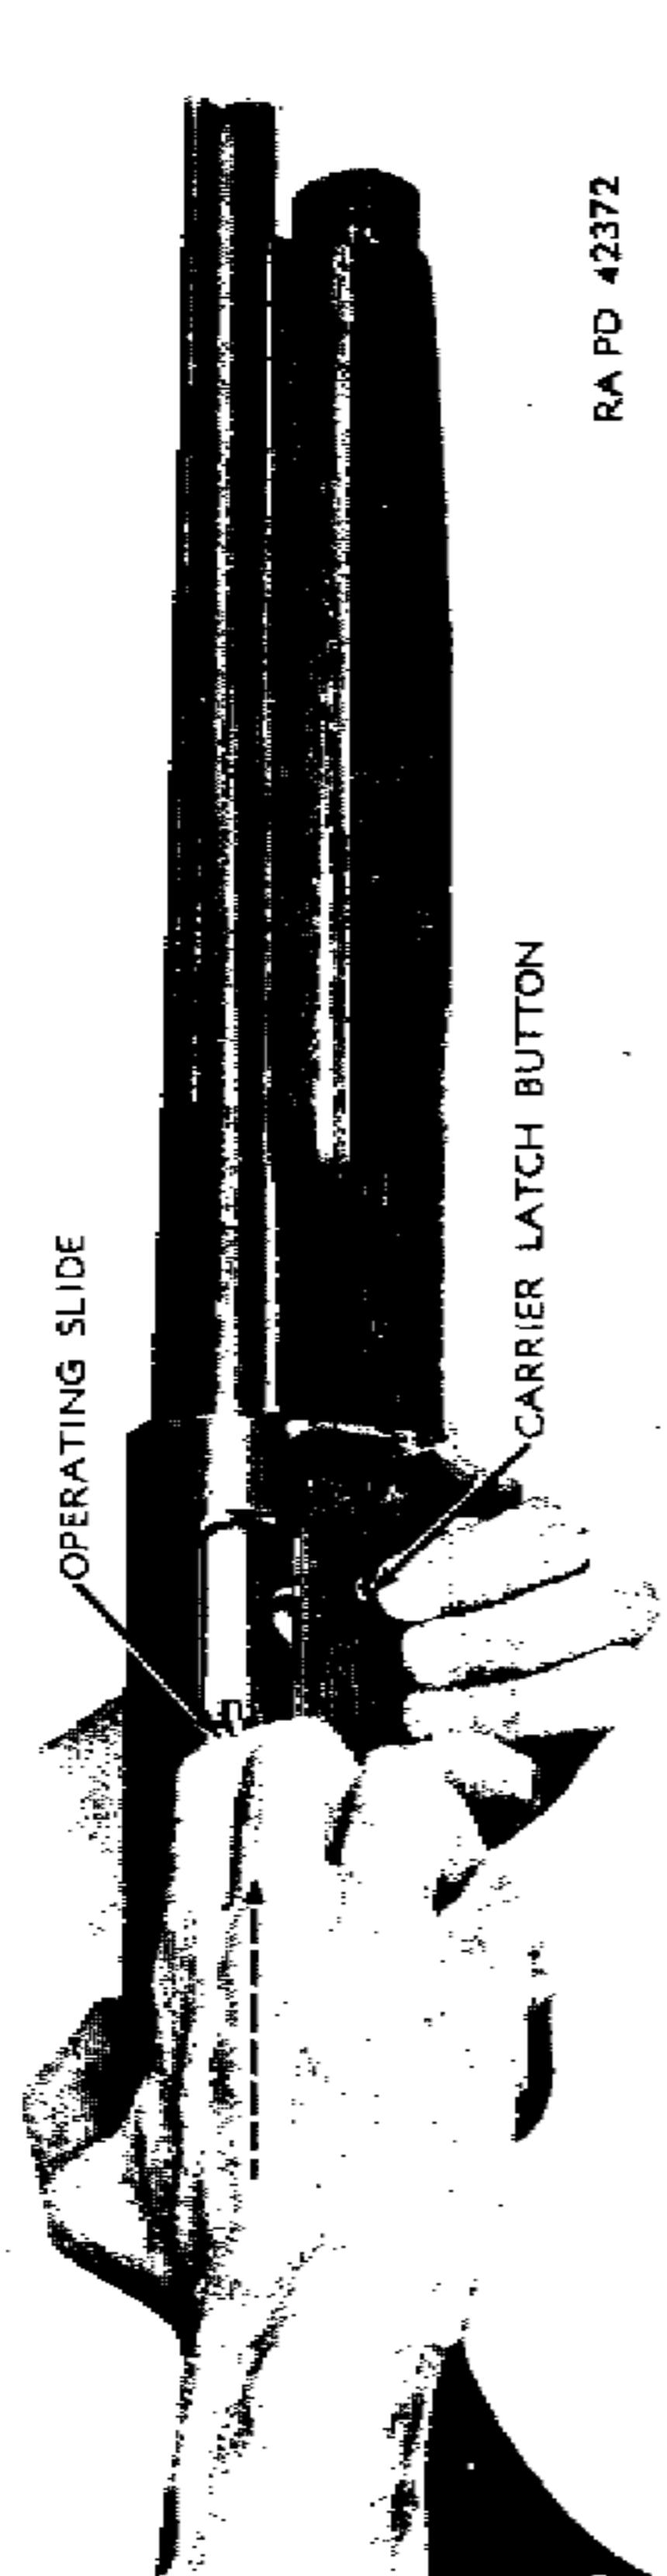

Figure 121—Easing Breech Bolt Forward—Carrier Latch Button Depressed—Savage Shotgun M720
(1) Set safety at safe by pushing all the way to the right. Press carrier latch button and then push shell, which protrudes part way from the magazine, fully into the magazine until it is retained by the forward end of the carrier latch. Keep shell in magazine by continuing to press on latch button and retract operating slide to eject shell in barrel. Then, still pressing on carrier latch button, allow breech bolt to close slowly (fig. 121), watching to see that the bolt closes on an empty barrel chamber.